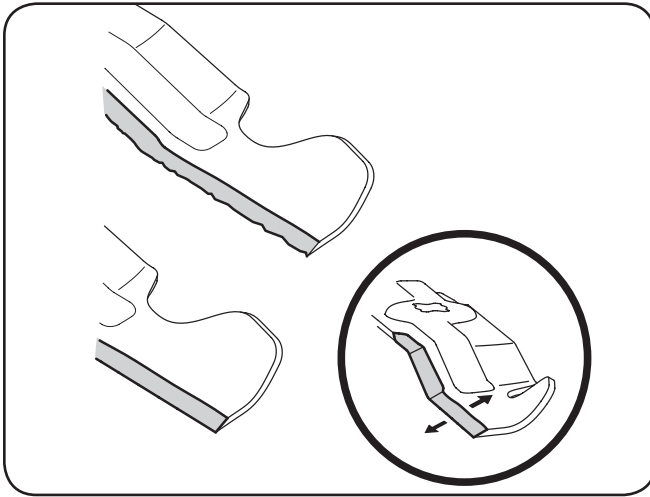

Figure 7-8
- To properly sharpen the cutting blades, remove equal amounts of metal from both ends of the blades along the cutting edges, parallel to the trailing edge, at a 25°- to 30° angle. Always grind each cutting blade edge equally to maintain proper blade balance. See Figure 7-8.